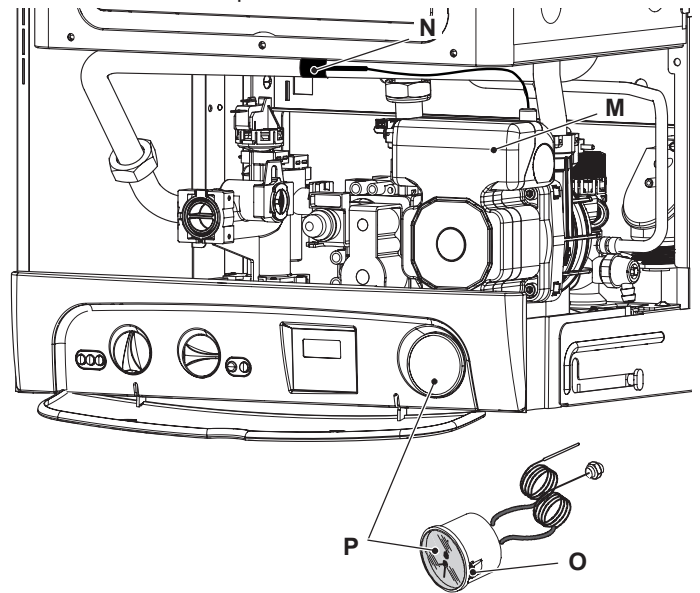

Figure 11.3
- 2 Remove the fork M and the probe holder spring N (Figure 11.3).